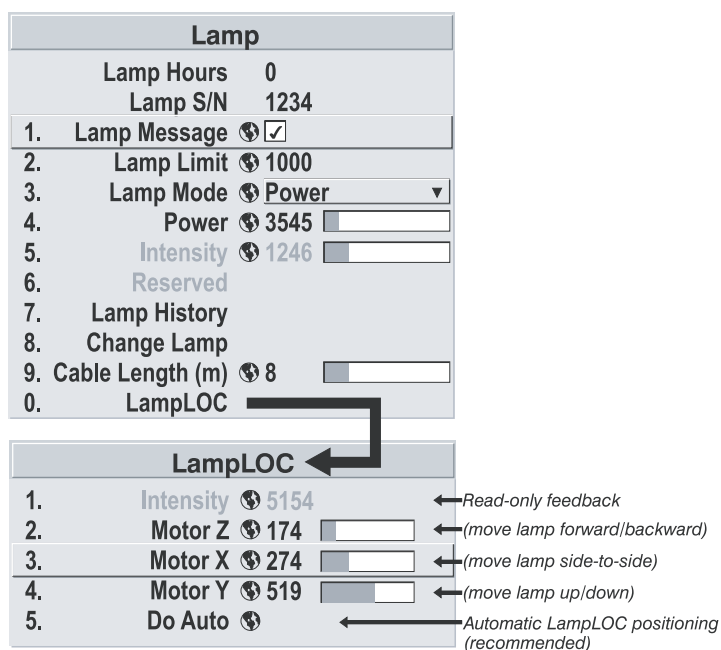

Figure 3-24. Using LampLOC to Align the Lamp
3. Select **LampLOC** from the Lamp menu (see Figure 3-24).